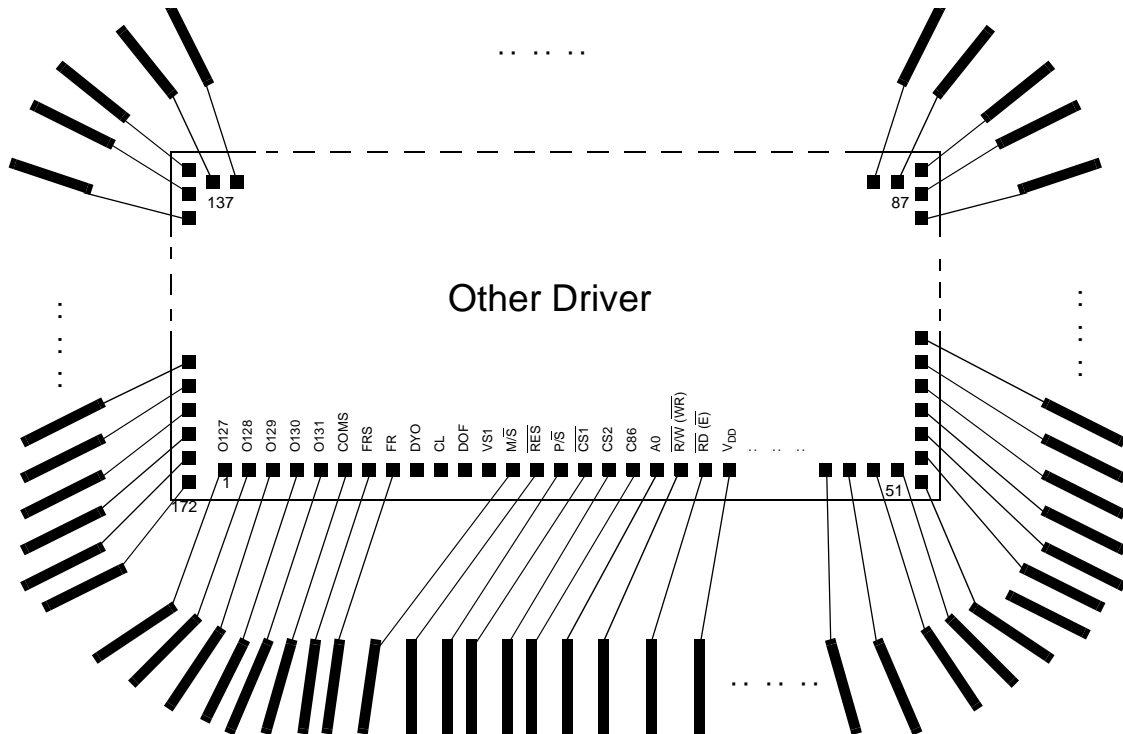

Figure 1: Selected Part of Bonding Diagram of a LCD module example
- Part of the bonding diagram is drafted in Figure 1.